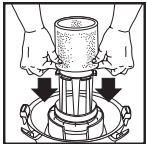

FIGURE 22
37. With tank cover in an upside down position, slide foam sleeve down over lid cage pulling until foam sleeve completely covers lid cage. **FIGURE 22.**